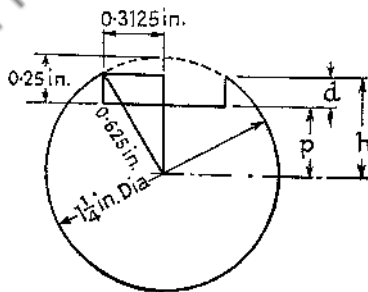

Fig. 20
(4) A keyway is to be cut into a shaft as shown in fig. 20. Calculate the depth of the keyway.